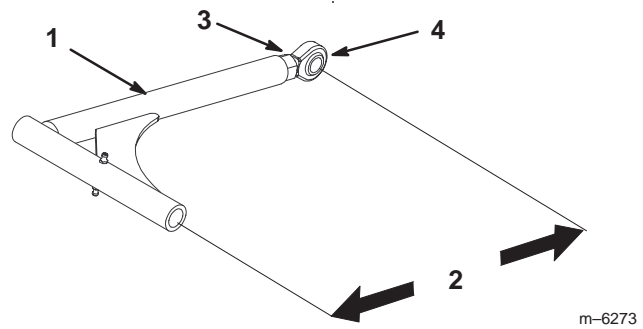

Figure 58
1. Loosen the jam nut and rotate the ball joint counterclockwise, one turn at a time (Fig. 58).
2. Adjust each side the same amount. Each push arm should have a nominal length of 15-5/16 inch (389 mm) (Fig. 58).